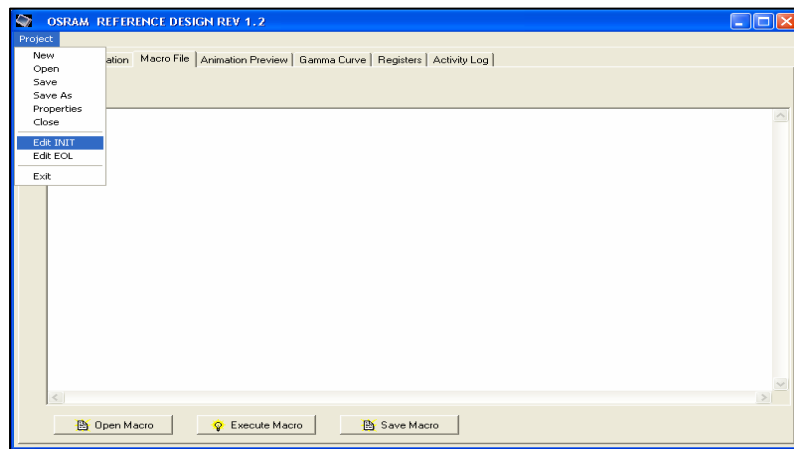
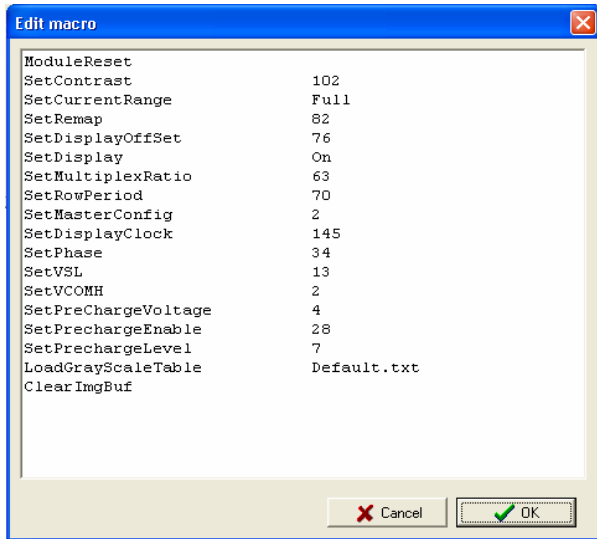
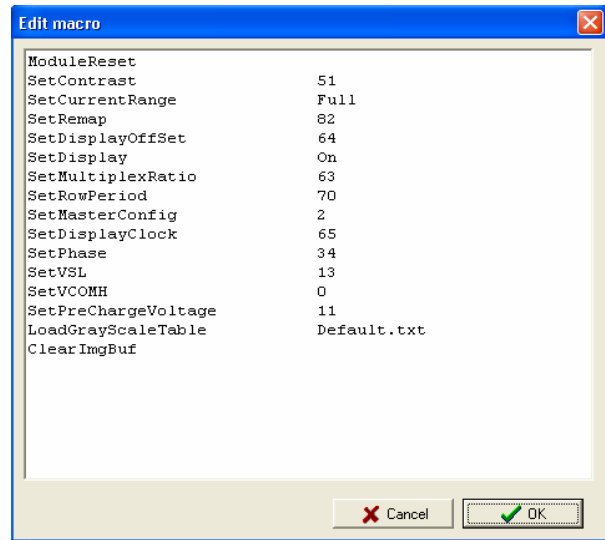

Figure 3a
Figure 3b
Figure 3c
3. Click Project\Edit INIT as shown in Figure 3a to observe the download data. The data for Atlanta and Calgary are shown as in Figure 3b and Figure 3c.